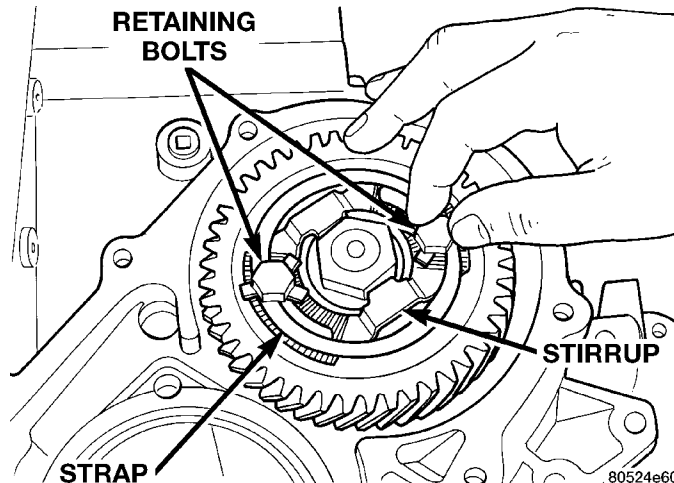

Fig. 154 Remove Strap Bolts
(2) Remove bolts holding retaining strap to stirrup (Fig. 154).